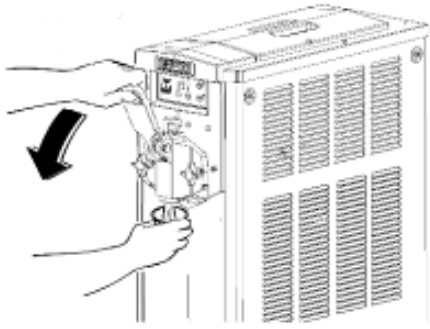

Fig. 44
- Empty the cylinder and repeat the same steps until the water coming out is clear (Fig. 44).